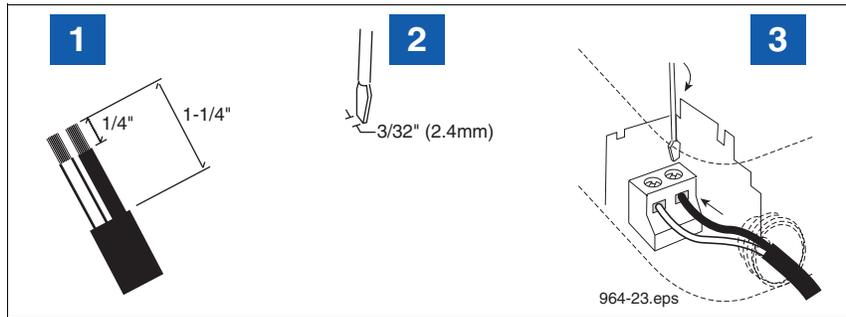

Figure 18. Connecting sensor wiring to sensor terminal block
- Strip back cable jacket and wires as shown in Figure 18.
LEGEND FOR NUMBERED BOXES IN Figure 18
5. Slide the nut over the cable. Choose the correct size bushing and slide it over the cable. Dress the cable jacket according to the dimensions in Figure 18. Insert the cable into the appropriate opening at the bottom of the housing. Insert each wire into the appropriate terminal and tighten. Leave a small amount of slack in each wire. Slide the bushing into the bottom of the housing. Hand tighten the nut.
9. Slide the nut over the cable. Choose the correct size bushing and slide it over the cable. Dress the cable jacket according to the dimensions in Figure 18. Insert the cable into the appropriate opening at the bottom of the housing. Insert each wire into the appropriate terminal and tighten. Leave a small amount of slack in each wire. Slide the bushing into the bottom of the housing. Hand tighten the nut.